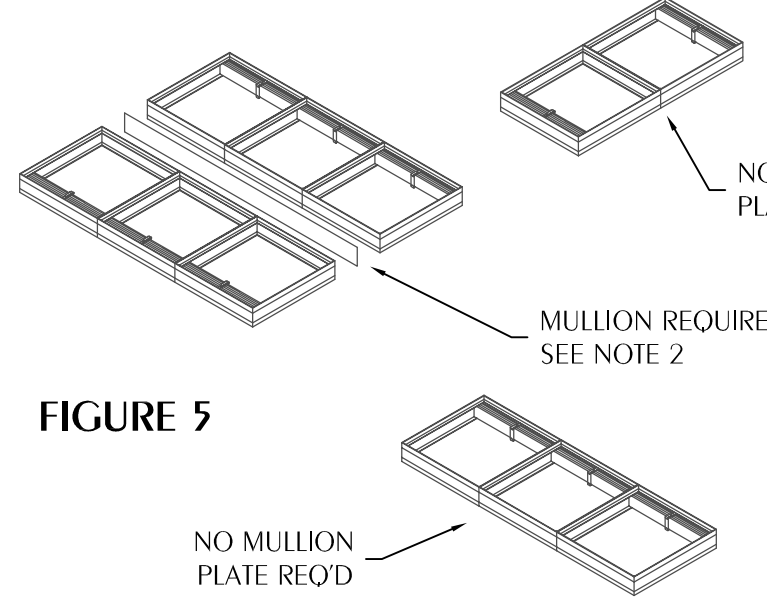

FIGURE 5
Multiple section horizontal mount dampers require a 1/4" galv. thick x 1/2" (2 x 114) wide steel reinforcing plate sandwiched between the damper leaves with 1/2" (13) long, wide staggered intermittently and spaced on maximum 6" (152) centers. The reinforcing plate must be the same material as the dampers. The length must be equal to the damper width of two or more adjoining damper sections. Reinforcing plates are not required for assemblies consisting of two dampers attached end-to-end or three dampers attached side-to-side as depicted in figure 5.